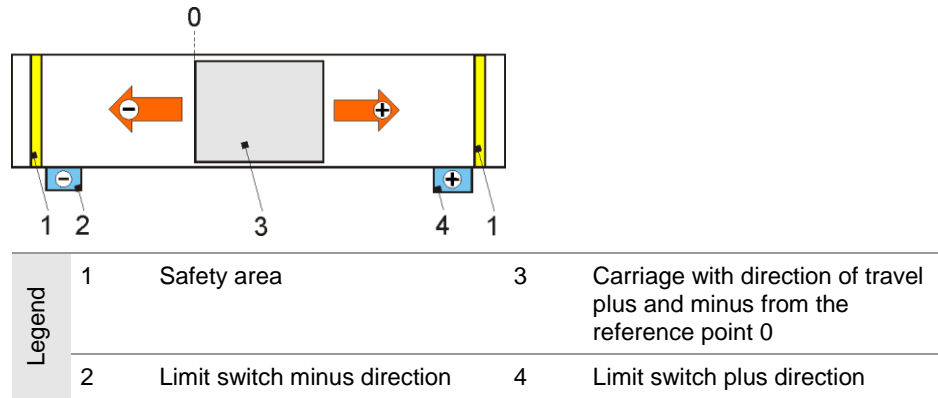

Figure 6: Example of direction of travel and limit switch circuits
2. Check the direction of rotation of the motor. It must correspond to the safety limit switches (Figure 6). Change the direction of rotation of the motor if required.